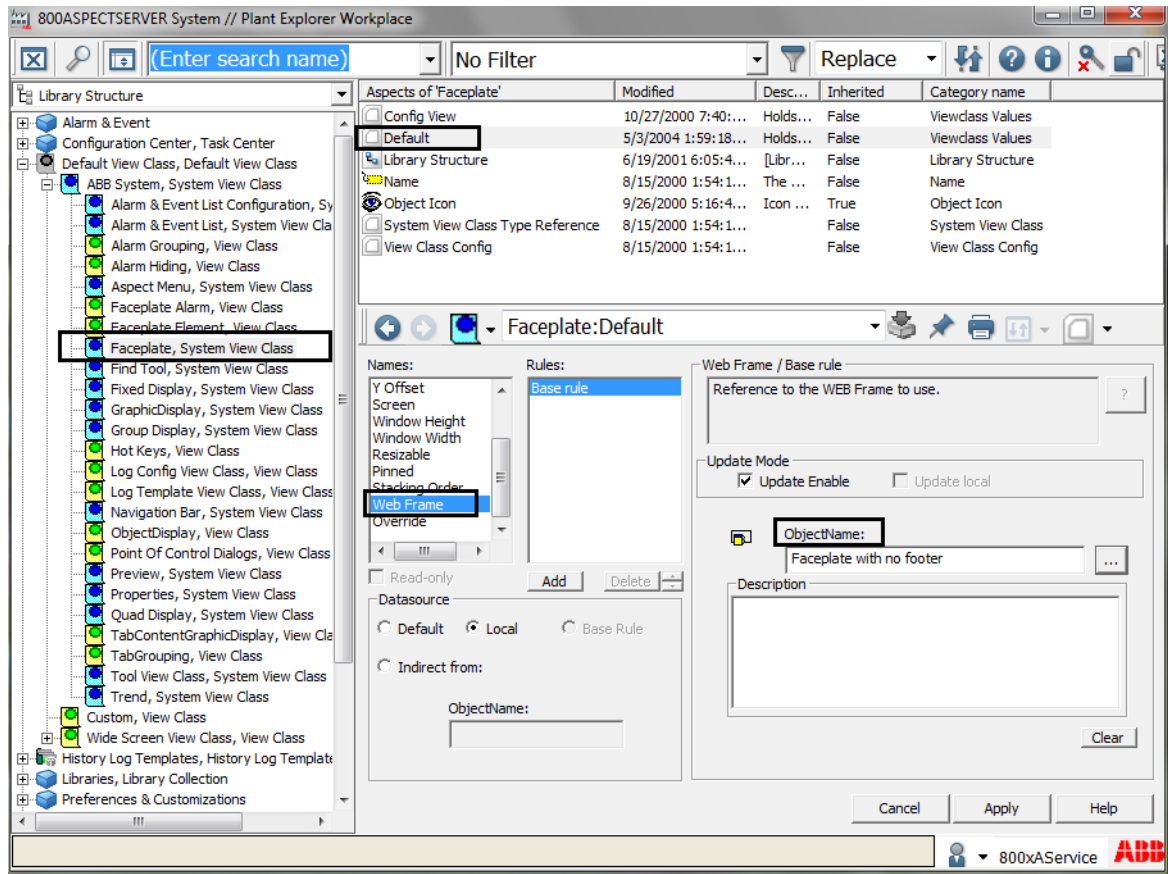

Figure 113. Default aspect of the Faceplate System View Class object
5. Click **Apply** (see Figure 113) to save the changes.